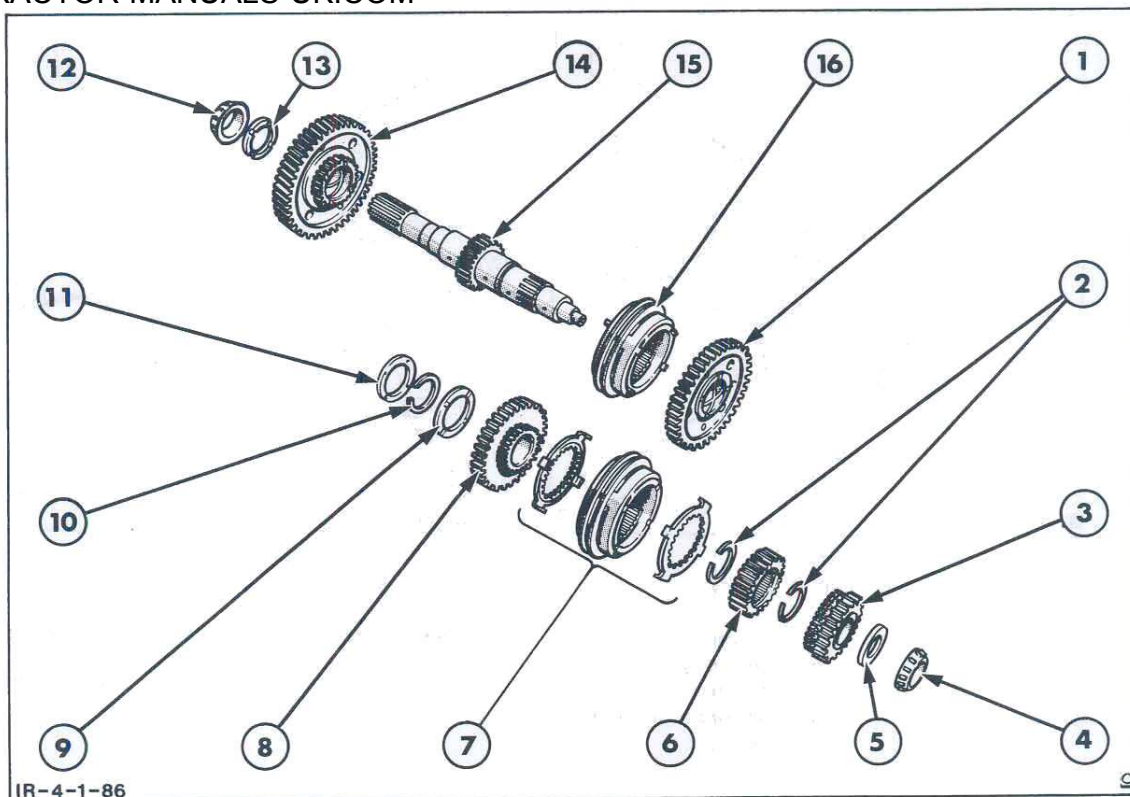

Figure 86
1. Thoroughly clean the output shaft components, Figure 86, with a suitable solvent, then blow dry with compressed air. Do not spin the bearings with compressed air.
With reference to Figure 86.